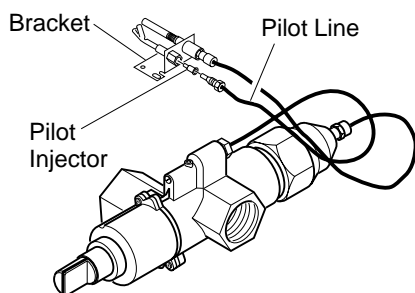

Figure 17 - Installing Propane/LP Pilot Orifice
- Gently loosen and remove the pilot line connection from the bracket (see Figure 17, page 11).
- Replace the pilot injector (see Figure 17, page 11) with the propane/LP pilot injector with the red stripe.